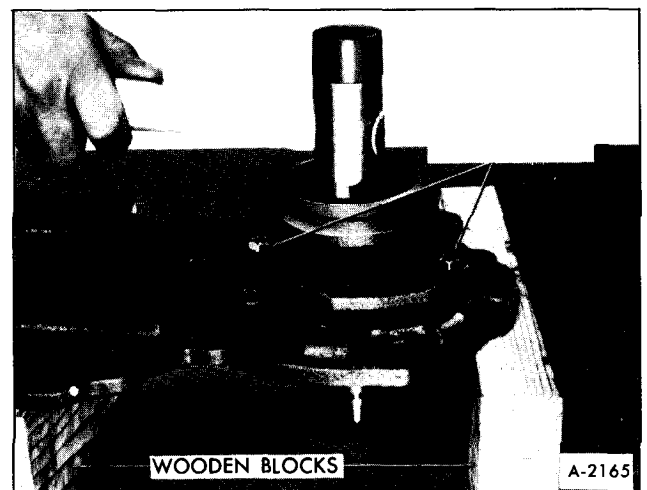

Figure 48—Installing Drive Sprocket Support
g. Install drive sprocket support housing into pump cover plate by using a plastic mallet to seat the housing. Use bolts for guides, Figure 48.